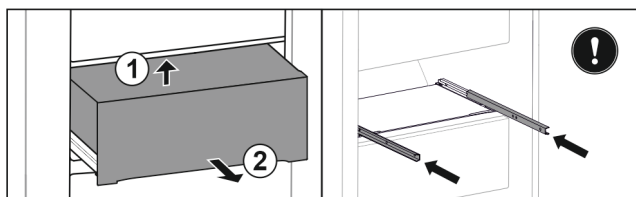

Fig. 41
- ▶ Lift it up at the back from below Fig. 41 (1).
- ▶ Take out to the front Fig. 41 (2).